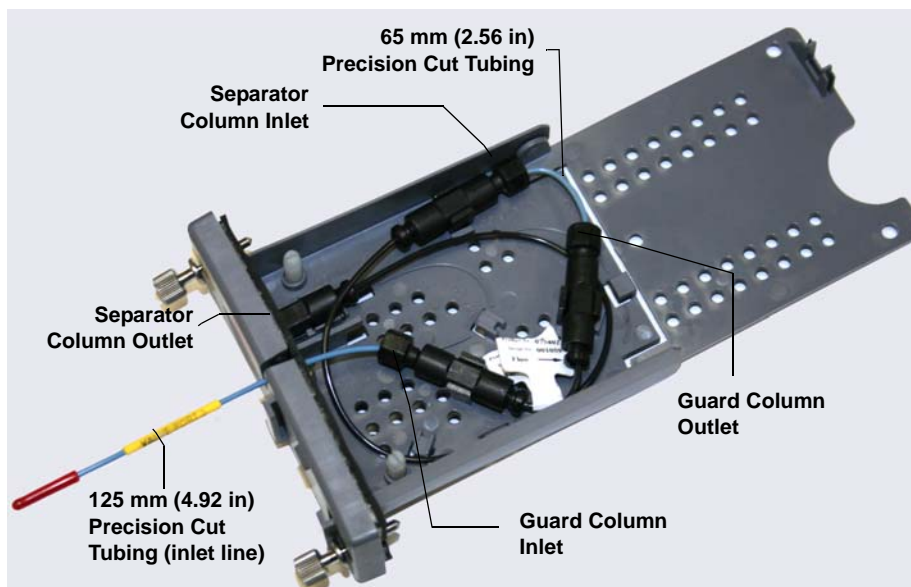
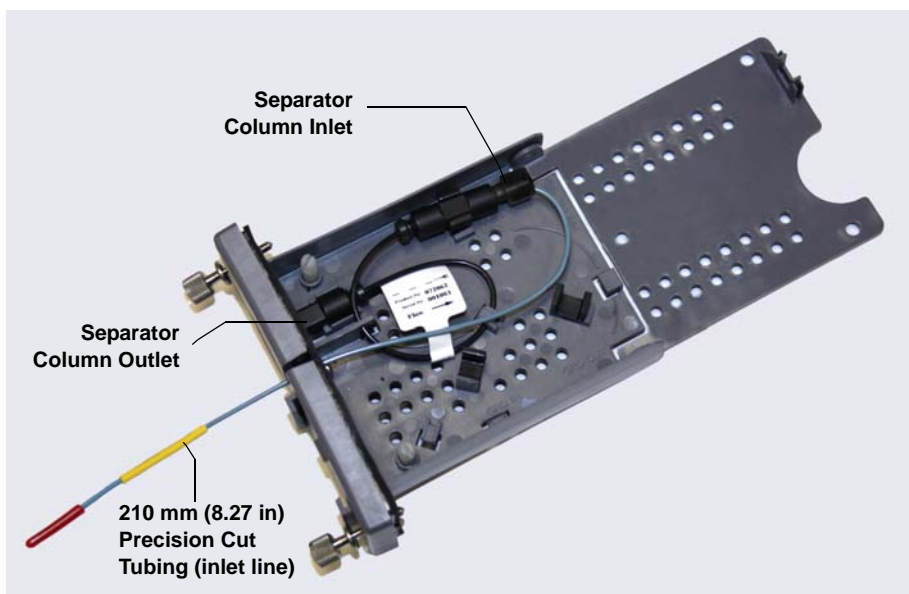

Figure 4-12. 250 mm Separator Column and 50 mm Guard Column Installed in Capillary Column Tray
Figure 4-15. 150 mm Separator Column Installed in Capillary Column Tray
5. Coil the columns and precision cut tubing inside the cartridge as required for your configuration (see Figure 4-12 through Figure 4-15). Secure the tubing under the tubing clips and press the fittings onto the fitting clips.